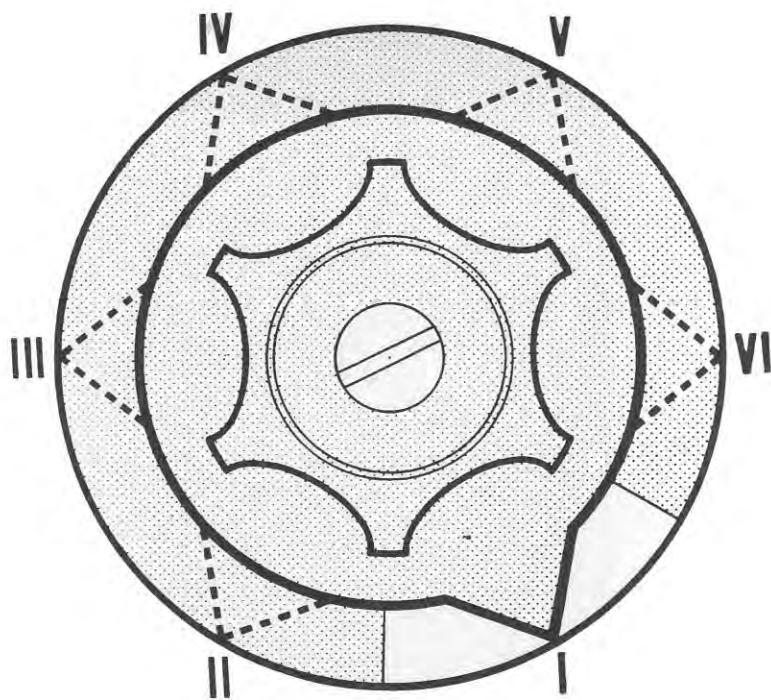

Fig. 1
- Check the wiring. If a wire is fitted to an incorrect terminal damage will result to both the voltage regulator and the dynamo. Refer to the wiring **diagram Fig.1.**
From this bakelite switch, all the lights and the horn are controlled. There are six positions of the switch (Fig. 1) which correspond to the following:
After connecting the wires, it is recommended to check with the wiring diagram (Fig. 1, Section F).